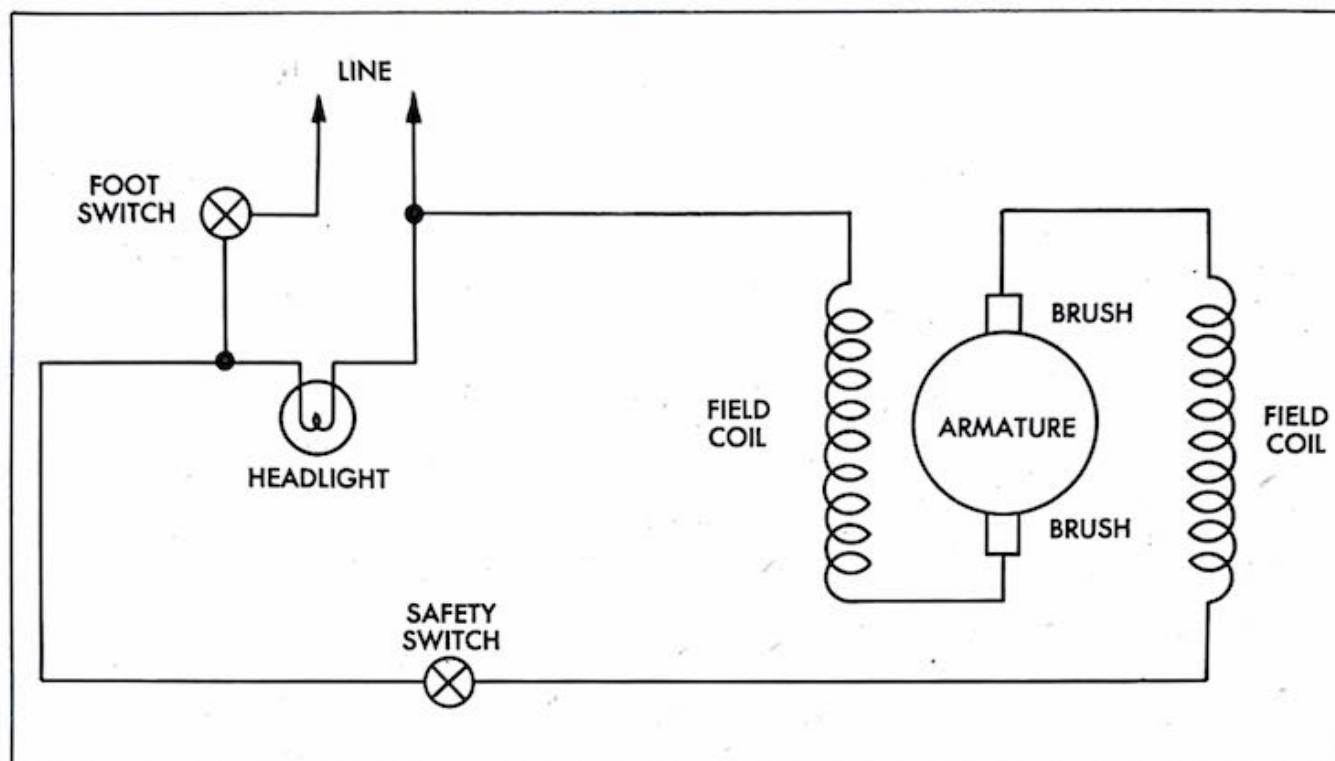

Figure 1-5. Wiring diagram, Model 505/515
(3) Insert the short lead from the field and the remaining headlight lead through the hole adjacent to terminal "A"; connect the leads to the terminal. Check that the connections agree with the wiring diagram, figure 1-5.